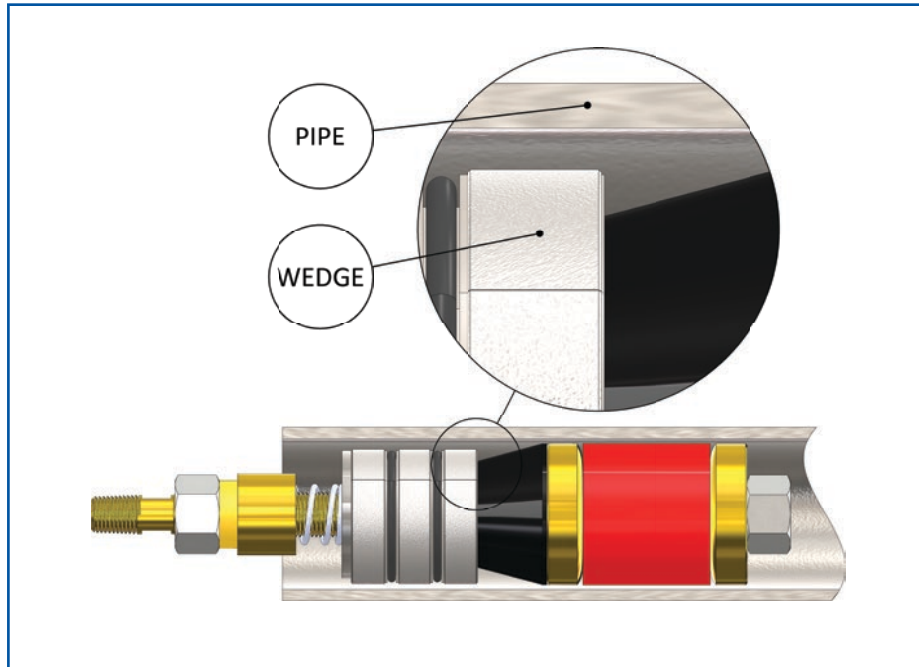

Figure 4: No Immediate Gripping Upon Insertion
- Ensure the plug is in the relaxed position (see **Figure 4**).
- The *Compression Hex Nut* ② should not be tight.
- The *Wedge Grippers* ⑤ should be fully retracted under the bodyline of the plug OD and should fit inside the pipe (see **Figure 4**).